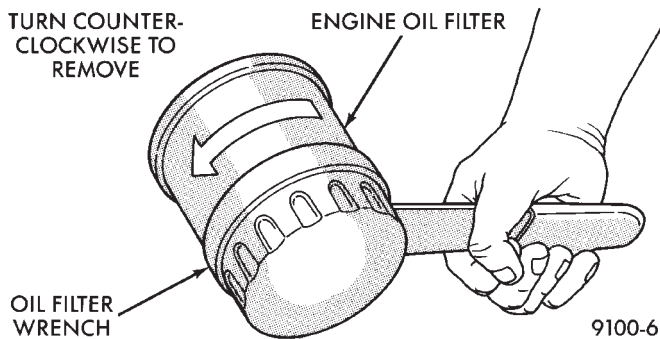

Fig. 8 Oil Filter Removal—Typical
(1) Position a drain pan under the oil filter.
(2) Using a suitable oil filter wrench, loosen filter.
(3) Rotate the oil filter counterclockwise to remove it from the cylinder block oil filter boss (Fig. 8).